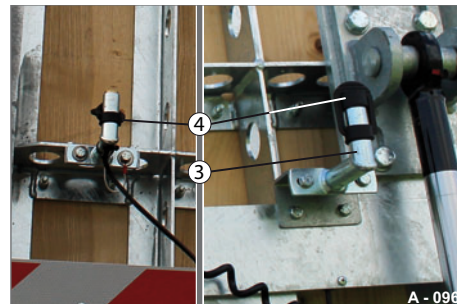

Fig. 97 Rotating light, disassembled
- ▶ Remove the protective cap (Fig. 97/4).
- ▶ Fit the protective cap (Fig. 97/4) onto the extension rod.